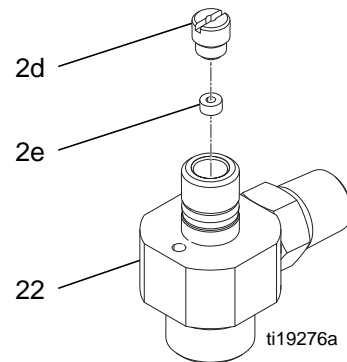

FIG. 11
- Lightly grease the inner cavities of the fluid housing (22). Install the small seal (2e) so the lips face into the fluid housing cavity. Install the seal retainer (2d) and torque to 30-40 in-lb (3.4-4.5 N•m). See FIG. 11.